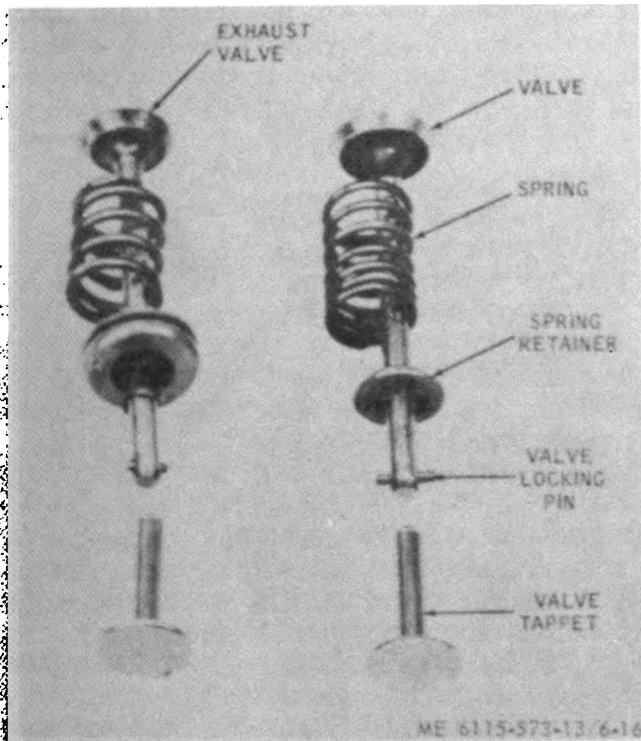

Figure 6-16. Relationship of valves and springs to cam tappets.
c. Raise valve spring collars and lift out locking pins (fig. 6-16).